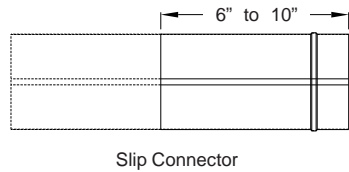

FIGURE 1
a) In this case, the access opening in the chimney with the tee branch mortared in position is existing. Check the diameter of the tee in the chimney and the diameter of the thimble liner. It is very likely that they are exactly the same size and will not fit into each other. If this is the case, take a slip connector and cut it to a length of between 6 and 10 inches measured from the beaded end (see figure 1).